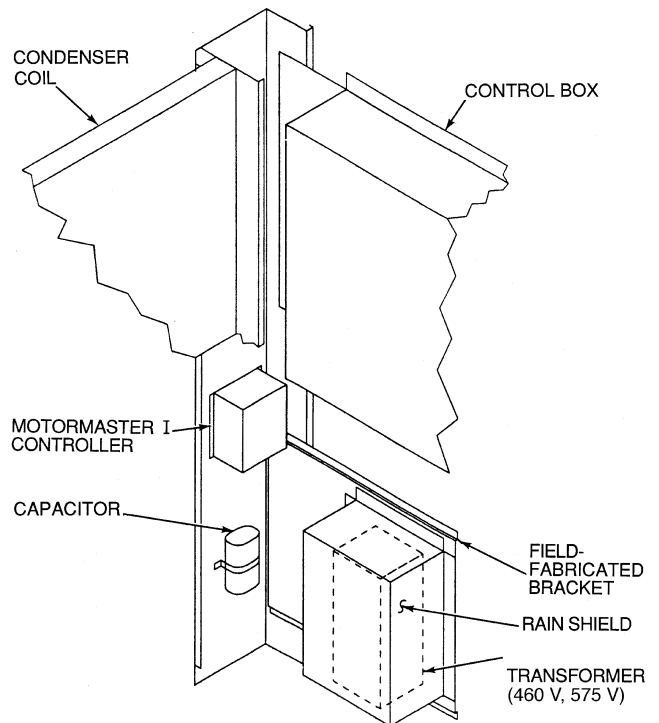

Fig. 4 — Mounting Motormaster® I Controller, Capacitor, and Transformer; Size 034-048 and 030-050 Units
Drill holes and mount the capacitor with terminals pointing up using capacitor strap, boot, and screws. See Fig. 4 and 5.
- Mount transformer (see Fig. 4 and 5) using field-drilled holes.